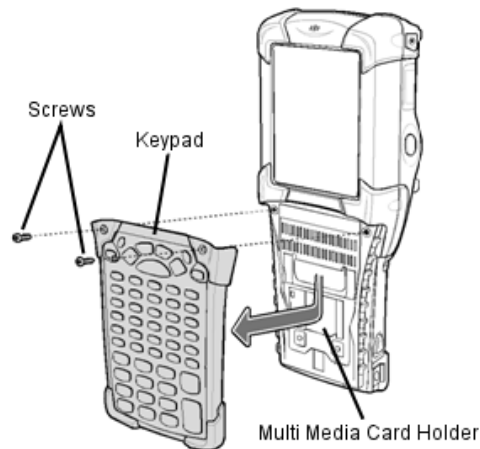

Figure 3-1 Removing the Keypad
The MMC provides secondary non-volatile storage. The MMC is located under the keypad (see Figure 3-1 on page 25).
- Remove the two keypad screws and slide the keypad down and lift off (see Figure 3-1 on page 25).